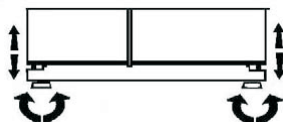

Fig. 3
- Try some operations, i.e. Open/close door to confirm the appliance will not move under normal usage/operation. If the appliance moves, adjust the leveling feet again until it is fixed and do not move (See fig.3).